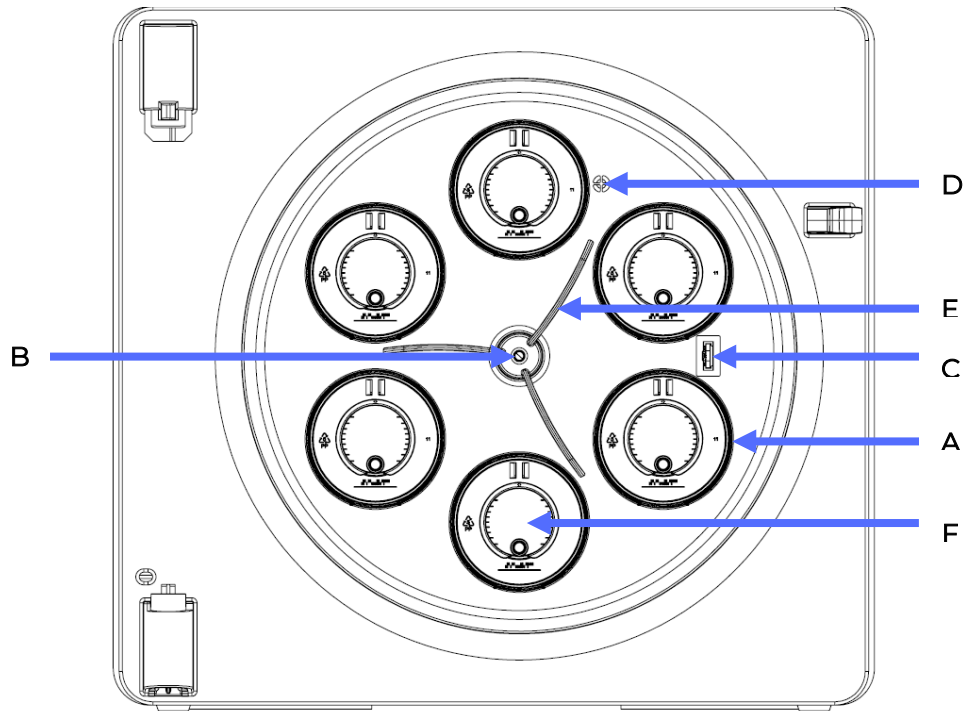

Figure 2
- Sensor measuring the workspace internal atmosphere temperature (°C) ('C' in figure 2)
- Sensor for measuring the workspace internal atmosphere CO₂ content (%) ('D' in figure 2)
The fan (E in figure 2) rapidly mixes the atmosphere inside the workspace. It runs at a constant speed when the ClinoStar is operating. *The fan can simply be removed by gently pulling it, when the fan is turned off, enabling an easier cleaning.*
3D cultures are often grown for months. Therefore, as one of the features designed to minimize the risk of microorganism contamination, the ClinoStar is equipped with a UV-C LED light for decontamination of the chamber (see 'B' in figure 2). If it is operating, this UV-C light is switched off automatically when the door is opened. Do not activate the decontamination program while you have cells growing in the ClinoStar.